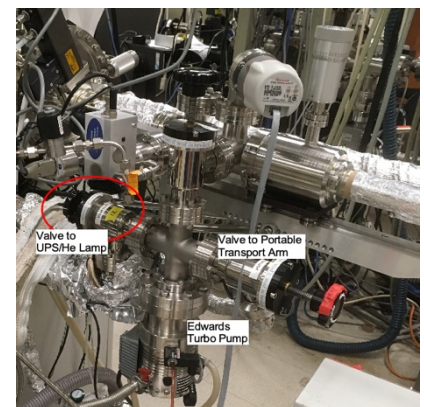

Figure 2 LL turbo pump with valve to Transport, valve to LL and valve to UPS/He lam
- 7) If the valve to the Transport (LLV2) is closed, open it, Figure 2.
- d. THEN open the valve to STC (the one facing down), Figure 2. If a, b, or c is not open STOP HERE and go back to step (6).
- 22) Close valve to STC (the one facing down, Figure 2), make sure that it is fully closed.